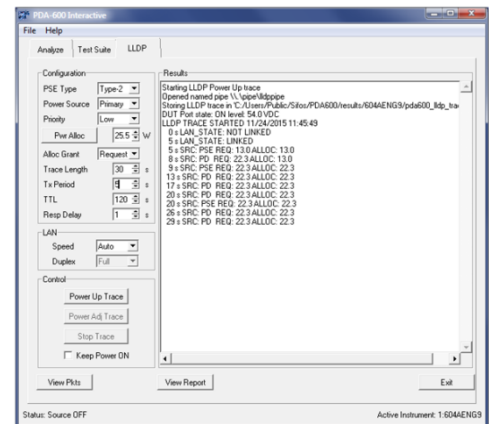

Figure 18: PDA Interactive LLDP Menu
**LLDP:** This menu (see Figure 18) accesses the PSE LLDP emulation and LLDP protocol tracing features of a PDA-604A discussed above. PSE LLDP emulations allow configuration of PSE-controlled message fields, power (available) allocation, power grant logic, transmit period, and response delay